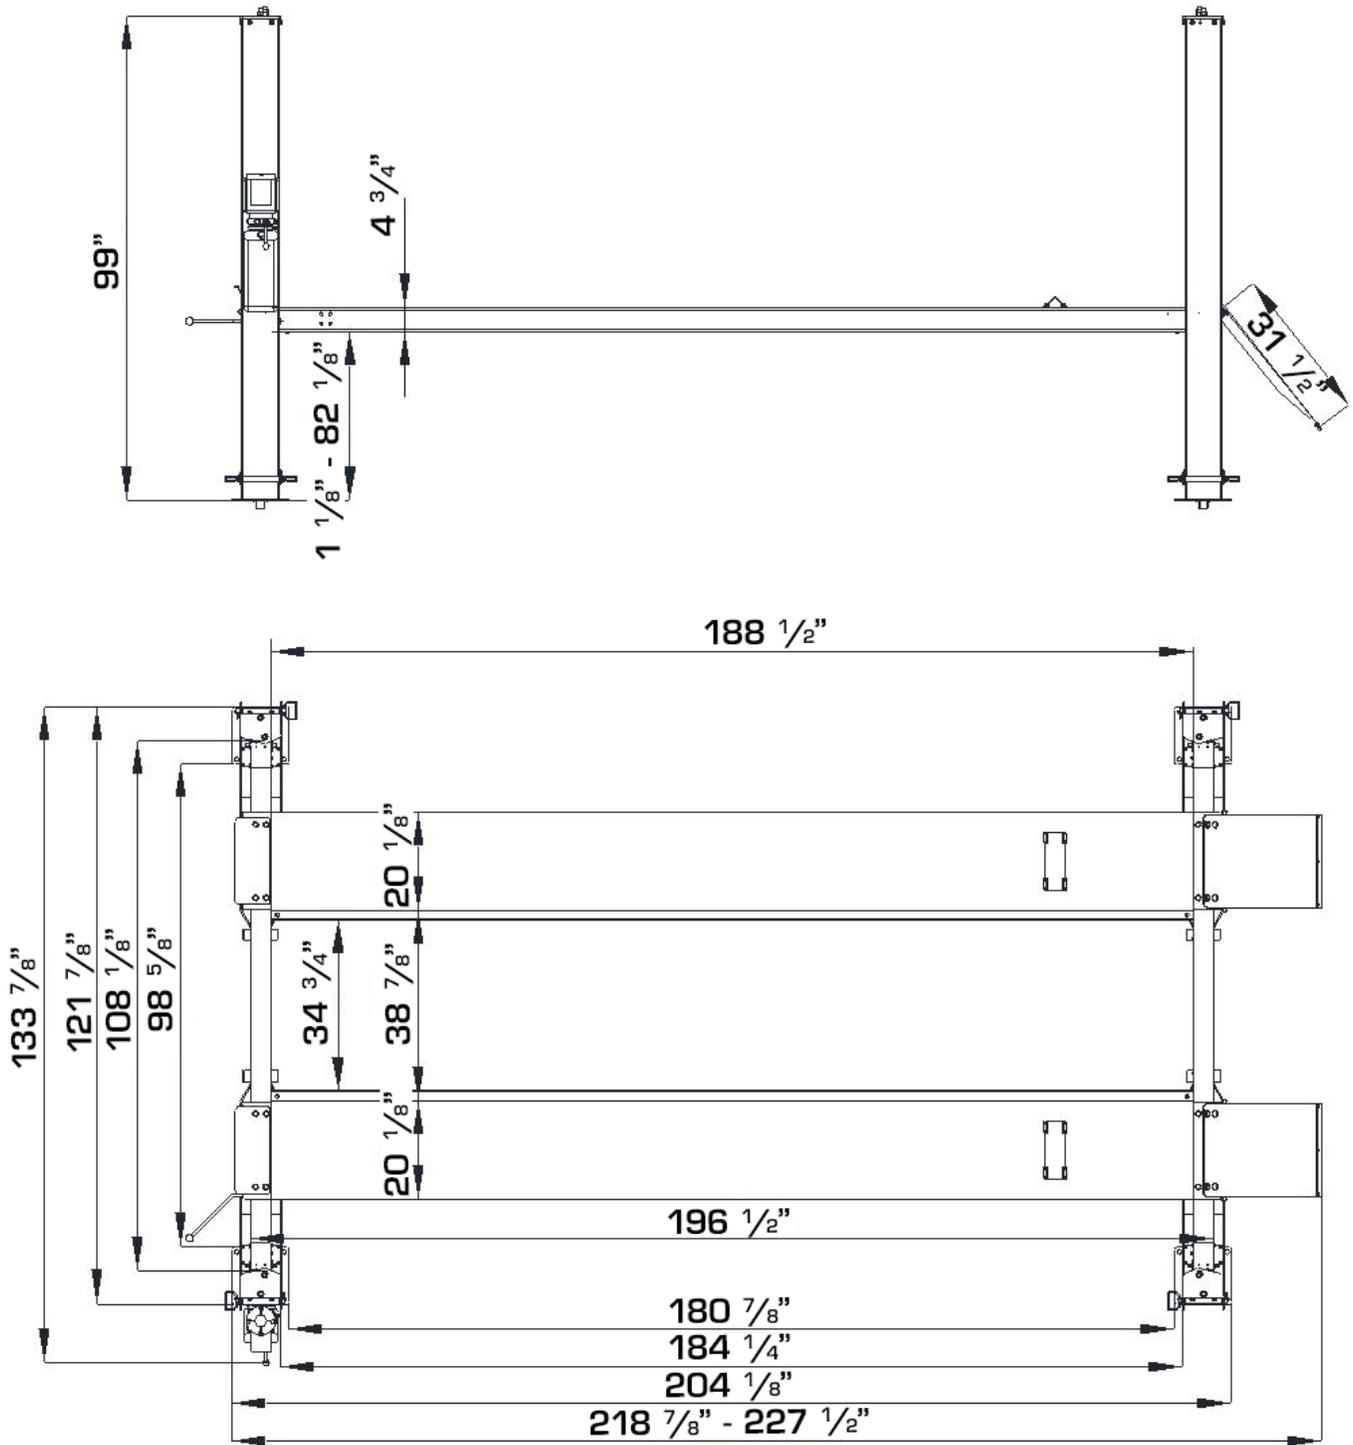

Figure 3 – Layout
- Transport each to the located site referring to the figure 3. Pay attention that the off-side diagonal to the power-side column is different from other two off-side columns. Remove all covers on transverse beams.